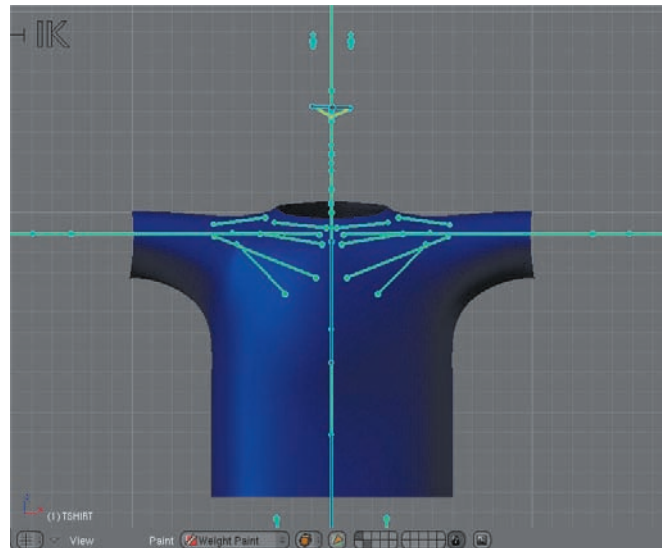

Figure 3.63 The shirt in Weight Paint mode
4. Select the armature and enter Pose mode. Select all bones by pressing the A key. Select the Shirt object and enter Weight Paint mode as shown in Figure 3.63. (I have hidden the layer that the Mancandy mesh is on). Press W and select Apply Bone Heat Weights To Vertex Groups to take advantage of the excellent new heat-based skinning feature, which yields considerably better results than the previous method of envelope weight-value assignment. You can see the weights assigned to each bone by selecting the bones one by one. The weights assigned to the left side and center bones are shown in Figure 3.64.